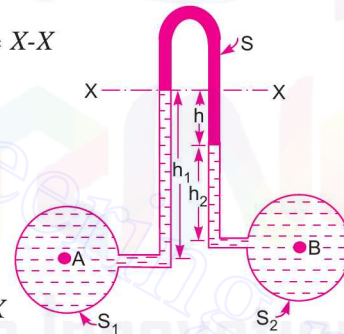

Fig. 2.21
**2.7.2 Inverted U-tube Differential Manometer.** It consists of an inverted U-tube, containing a light liquid. The two ends of the tube are connected to the points whose difference of pressure is to be measured. It is used for measuring difference of low pressures. Fig. 2.21 shows an inverted U-tube differential manometer connected to the two points A and B. Let the pressure at A is more than the pressure at B.